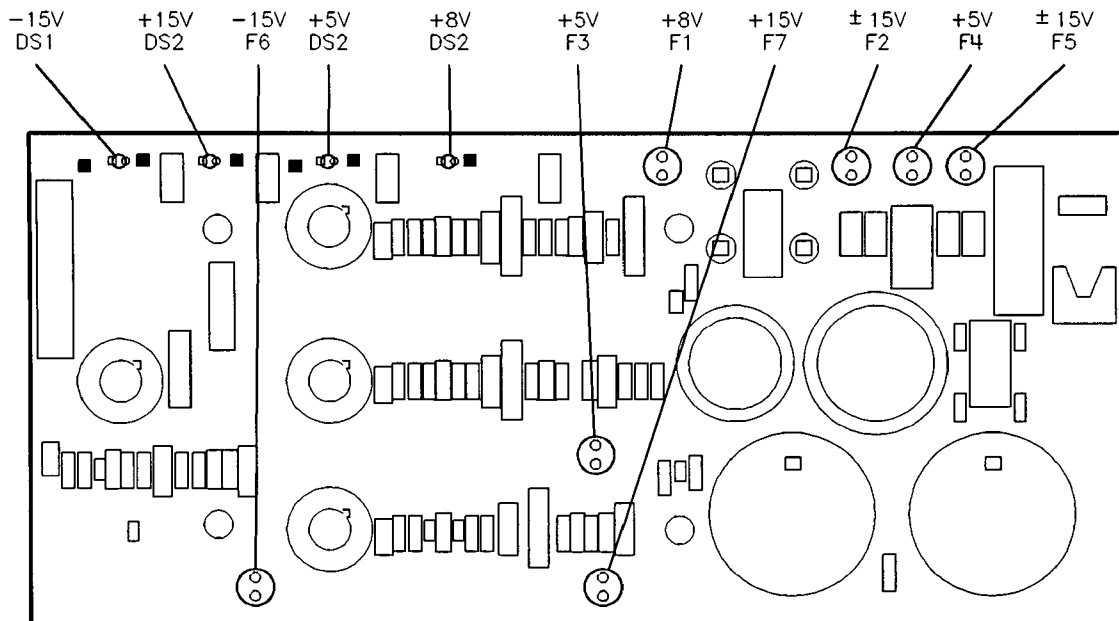

Figure 6-3. Power Supply LED and Fuse Locations
6. Refer to Figure 6-3. Using long-nose pliers to remove the fuses, check each one and replace any that are open.